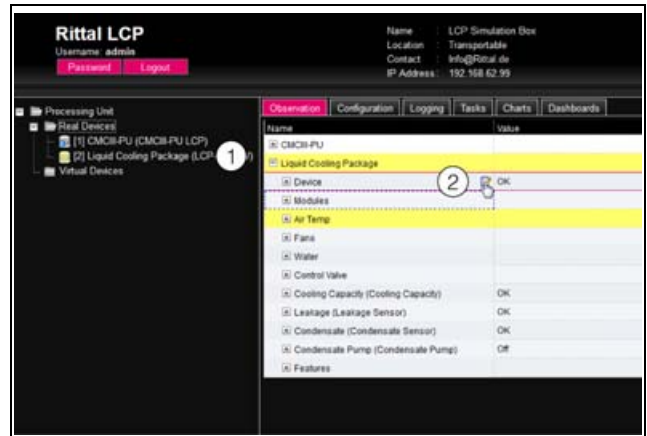

Fig. 100: Selecting multiple parameters
- Simply open the "Liquid Cooling Package" entry by clicking on the "plus" symbol in front of that entry (fig. 100, item 1).
- Position the mouse pointer at the end of the first column in the "Location" line (fig. 100, item 2). An "Edit" symbol will appear, and the mouse pointer will change to a "Hand" symbol.